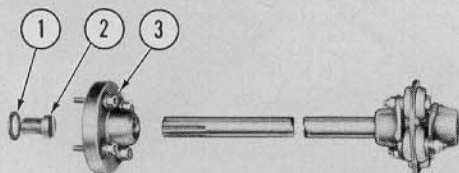

Figure 3
- b. Fit the flatwasher (1), Figure 3, on the special cap screw (2), and install the cap screw in place of the crankshaft ratchet nut which was removed. To prevent loosening, tighten this cap screw with a square shank screw driver and wrench.
- c. Place the four  $\frac{7}{16}$ " x  $1\frac{1}{4}$ " cap screws and lockwashers in the drive plate (3), Figure 3.